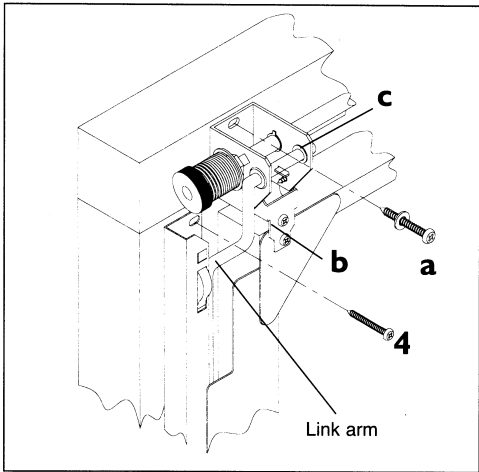
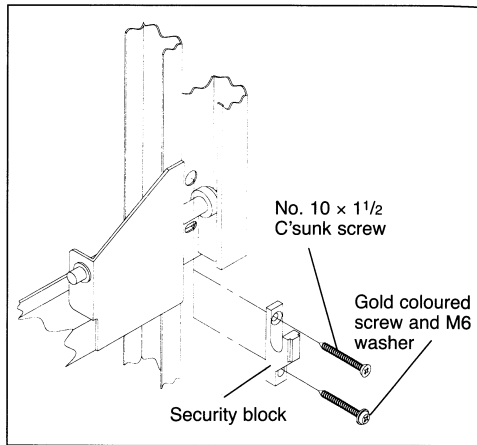

FIG 2
FIG 3
2 a. Insert the gold coloured screw with M6 washer into the slotted hole at the top of both Spring Mounting Brackets. Do not fully tighten at this stage (see fig. 2).
c. Remove remaining screw on the side of the Transit Brackets (see fig. 2) and discard the Transit Brackets.
3 Re-check that door is positioned centrally between timbers and that both link arms (see fig. 2) are equally set relative to door panel edge (any minor adjustment will be available on the Spring Mounting Bracket top slotted holes) before inserting lower gold coloured screw and M6 washer in each side.
4 On the upper fixing slot in both runners, pilot drill 4.0 dia. x 25 deep then insert and tighten a No. 12 x 1 1/2 inch Round Head Posi. screw (see fig. 2). Fix Diecast Security Block around Spindle at bottom of runner (ensure block does not foul on nylon wheel) using a gold coloured screw and M6 washer into slotted hole. Use adjustment on slot in block to ensure close contact with Spindle. Once final adjustment has been made insert and tighten the No. 10 x 1 1/2 inch Countersunk Posi screw into top hole on block (see fig 3). Repeat for opposite side.